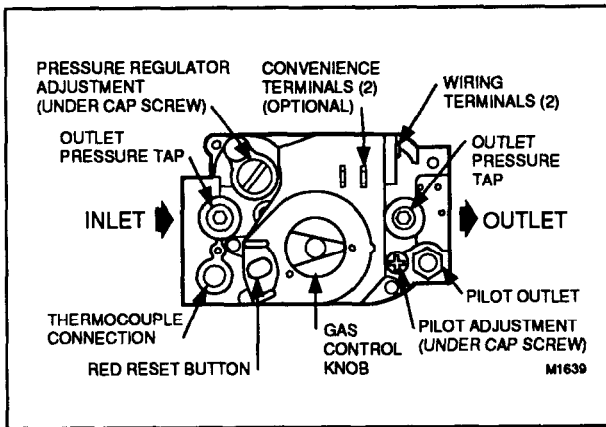

FIG. 5—TOP VIEW OF GAS CONTROL.
3. Unscrew compression fitting from the pilot outlet (Fig. 5). Slip the compression fitting over the tubing and slide out of the way.
2. Connect control circuit to gas control terminals. See Figs. 5 and 8 or 9.
1. Remove the pilot adjustment cover screw. Refer to Fig. 5.
2. With the main burner operating, check the gas control flow rate using the meter clocking method or check the gas pressure using a manometer connected to the gas control outlet pressure tap. Refer to Fig. 5.
control outlet pressure tap. Refer to Fig. 5.